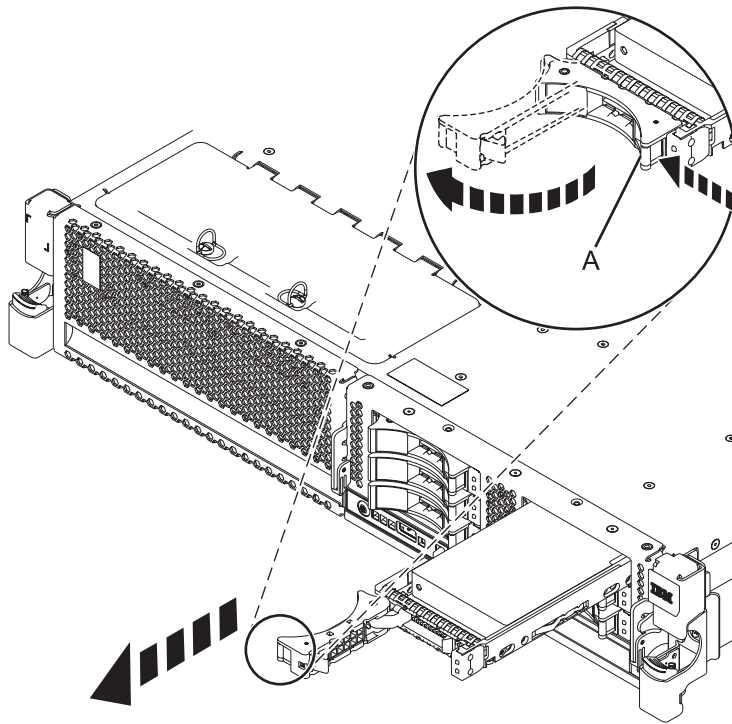

Figure 17. Removing a disk drive from the system
- When the identify LED flashes, unlock the drive handle by squeezing it and pulling it out toward you, as shown in Figure 17 on page 29.